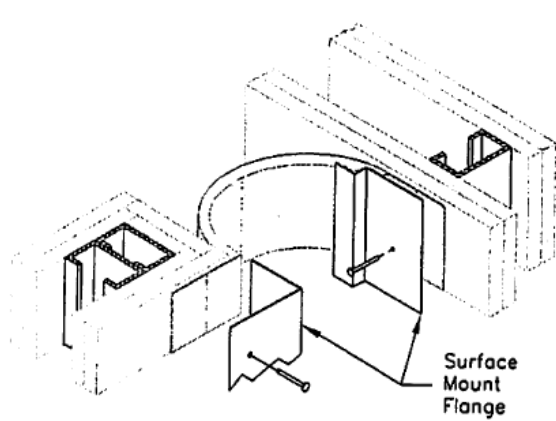
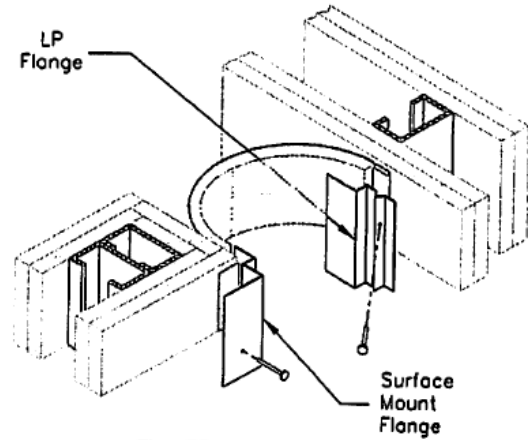

*Fig. B3
*Fig. C3
1. After completing material preparation described on page 1, place the fire barrier in the expansion joint. The foil flanges can be folded along the seam weld line onto the exposed face of the wall. The foil flange can be run out the wall on the other side of the joint. (Fig. B3) With the Low Profile galvanized flange configuration on the wall side, the foil flange can be folded over itself before the galvanized flange is fastened into place. (Fig. C3)